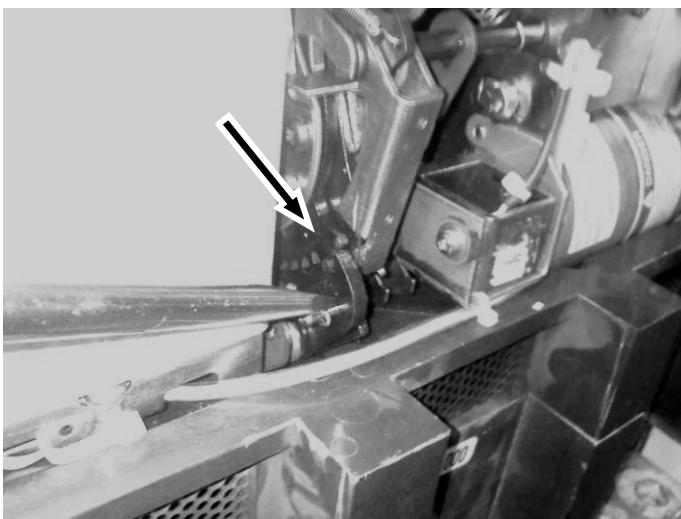
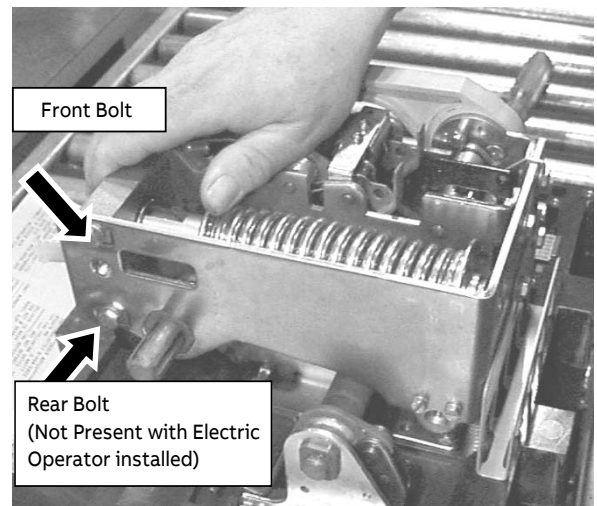
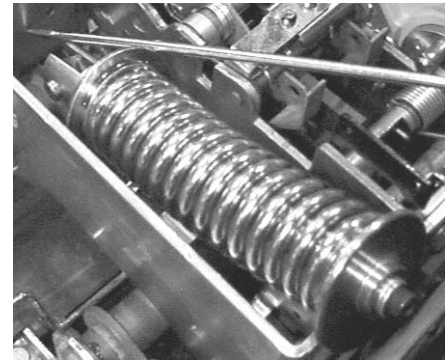

Figure 10: Illustration of ratchet arm being pulled away from sprocket
Figure 11: Pressing the spring assembly to allow removal.
Figure 12: Spring Removed Up and Out of Assembly.
8. Using a screwdriver pull the ratchet arm away from the sprocket to allow for the shaft mechanism to rotate freely (Figure 10). While holding the ratchet arm away from the sprocket, press the spring against the stop block as shown in Figure 11, then lift the front end of the spring assembly up and out, as shown in Figure 12.
11. Remove the front and rear bolts that secure the stop block to the left side of the spring assembly wall (Figure 11), and the bolt securing the stop block
assembly to the handle side of the assembly wall (Figure 10). If Electric Operator is installed, then only the front and handle side bolts will need to be removed because the rear bolt will not be installed.